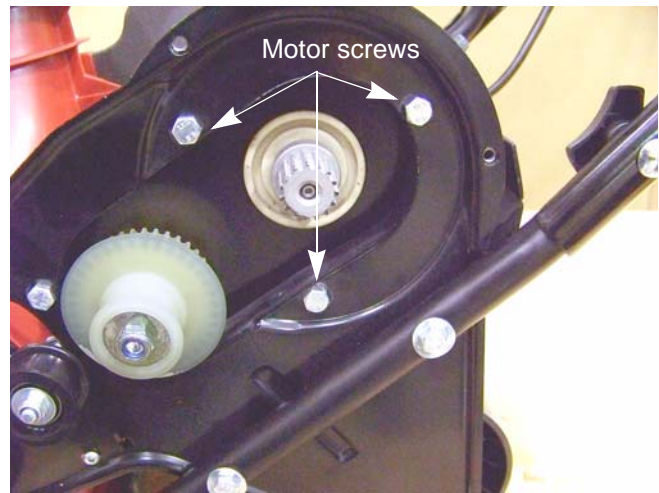

Figure 2.14
5. Remove the three motor screws using a 10 mm wrench. See Figure 2.14.